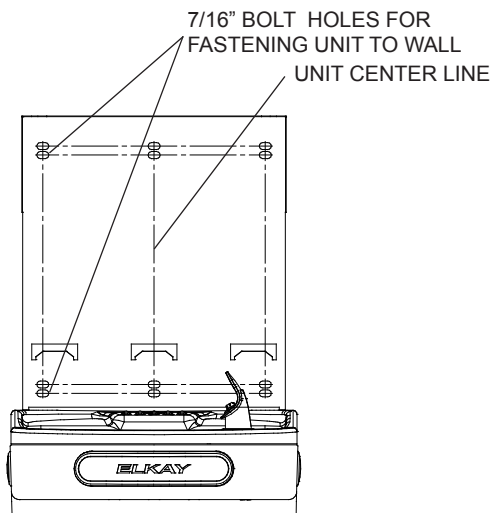

Fig. 5
- 4) Install wall mounting plate to wall using six (6) 7/16" obround mounting holes (mounting bolts not included) (See Fig. 5). Use appropriate fasteners for your wall type.